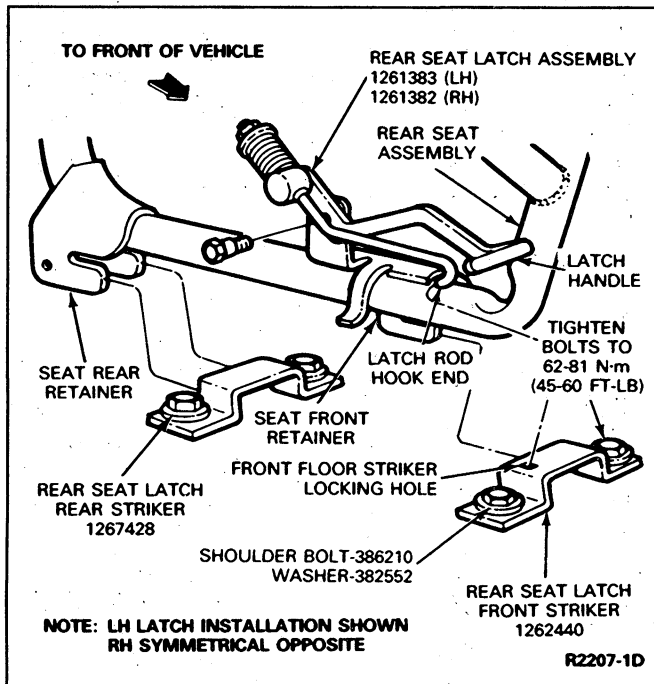

FIG. 1 Optional Quick Disconnect for 3-Passenger Rear Seat E-150—E-350
1. Lift and rotate the seat latch handles (RH and LH) rearward, causing the seat to move rearward and disengage the floor strikers (Fig. 1).
2. Lift the seat assembly into the vehicle and align the retainers to the rear edge of the floor strikers (Fig. 1).